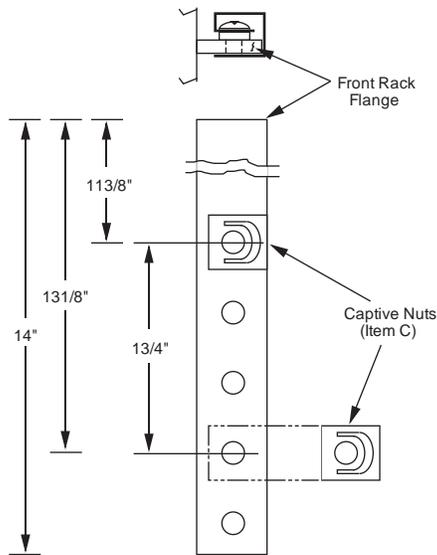

Figure 7-1
2. Referring to Figure 7-1, install two captive nuts (item C) on each front rack flange at holes 11-3/8" and 13-1/8" from the top of the selected space.